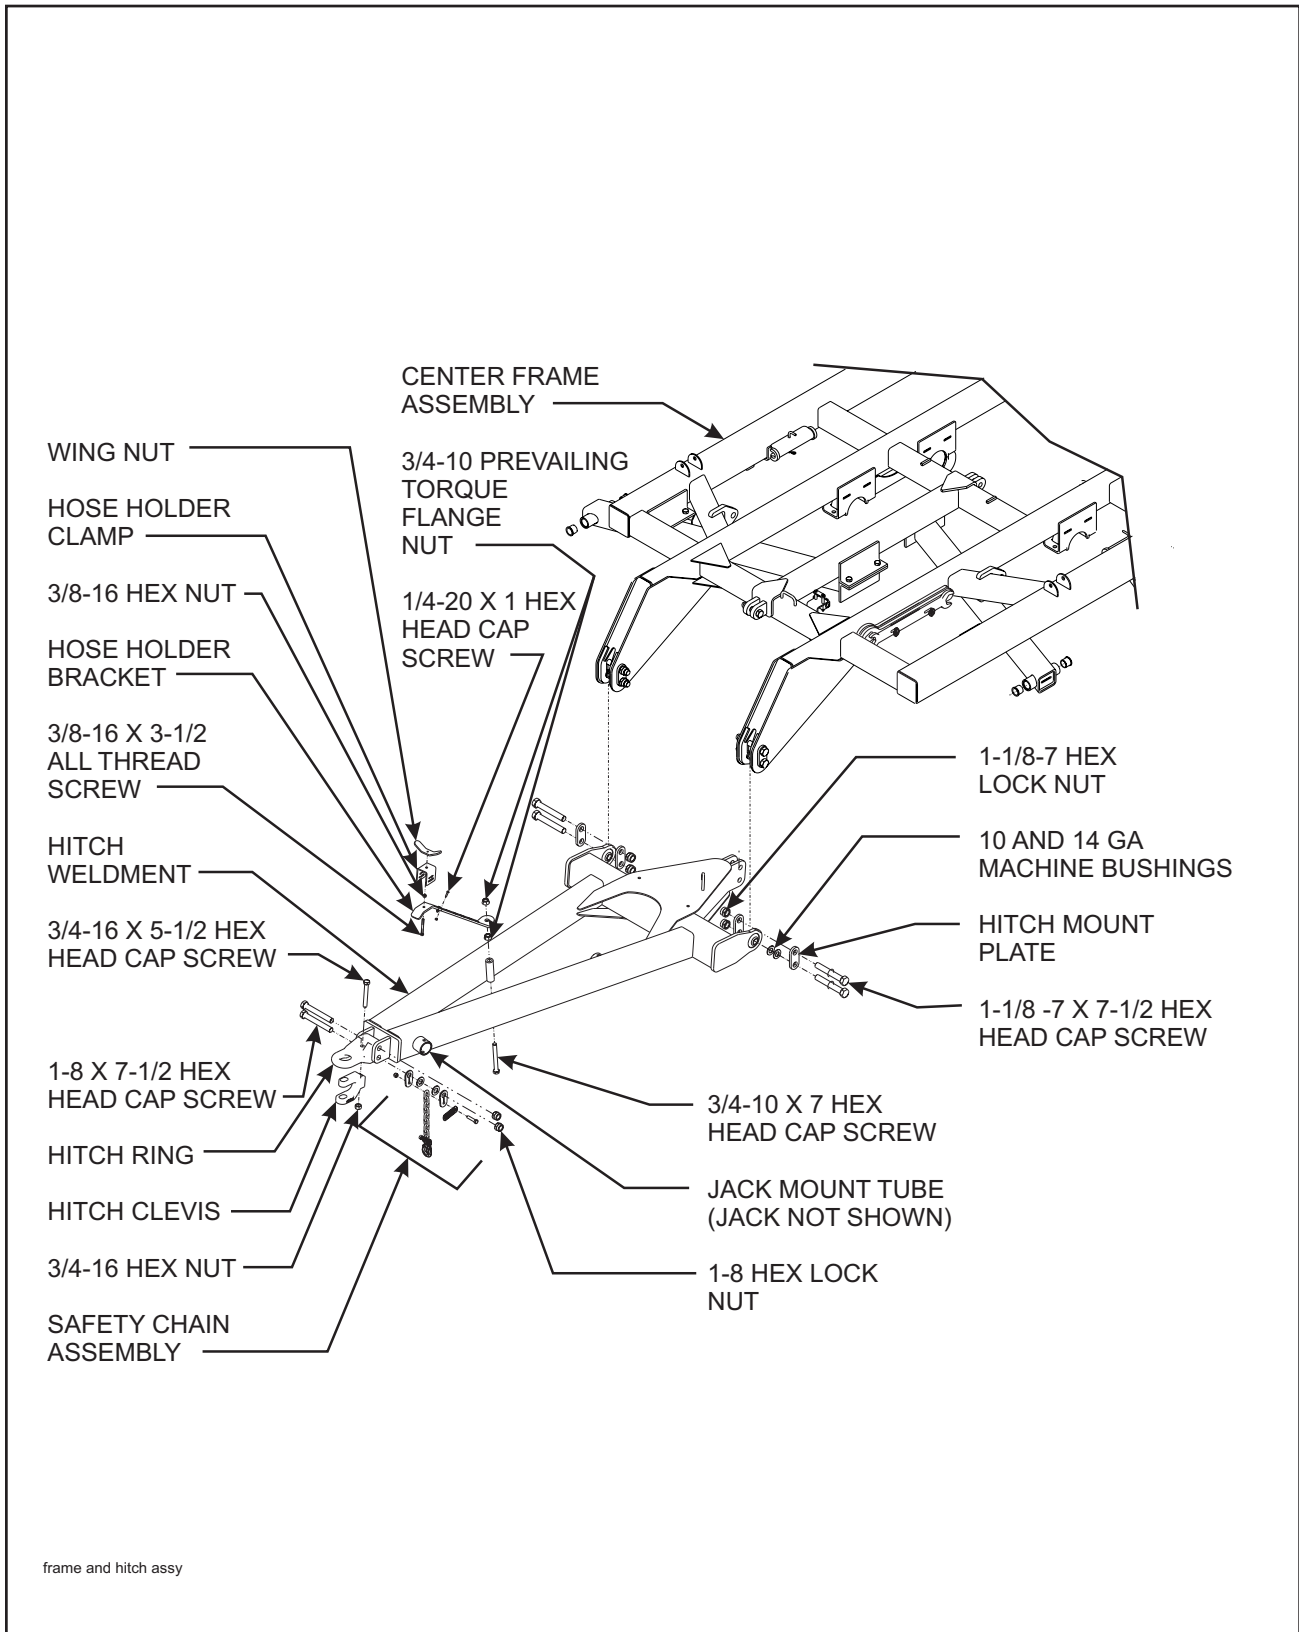

Figure 3-1 Frame and Hitch Assembly Installation
- 3-1.2** Attach the hitch weldment to the front of the center frame using 1-1/8-7 x 7-1/2 hex head cap screws, machine bushings, hitch mounting plates, and hex lock nuts (**See Figure 3-1**). Machine bushings are provided to remove the slack on each side of the ball joints and center the hitch. Use bushings as required.